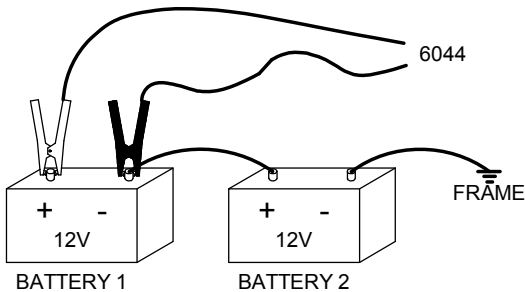

FIGURE 3
- 1) Attach heavy duty leads to Battery 1 and run battery load test. Evaluate the results. (See figure 3)